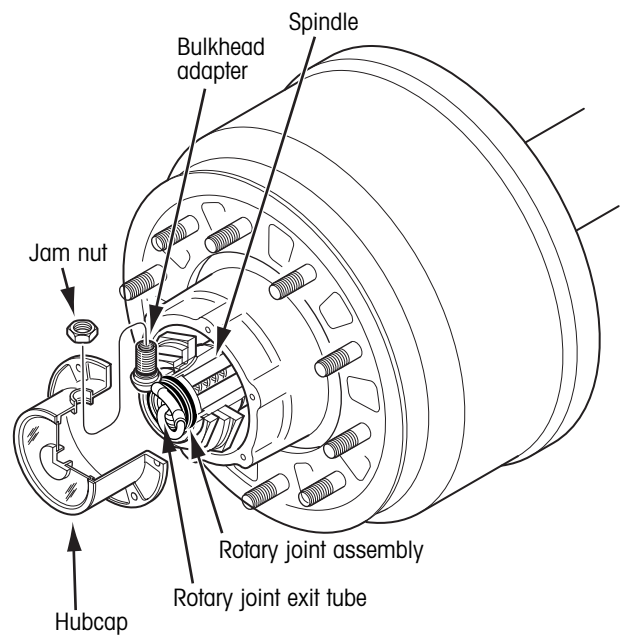

Figure 41. Hubcap to bulkhead adapter assembly
- 3. From the inside, insert the bulkhead adapter through the hole labeled "Air" in the hubcap. Attach the jam nut and hand tighten (figure 41).